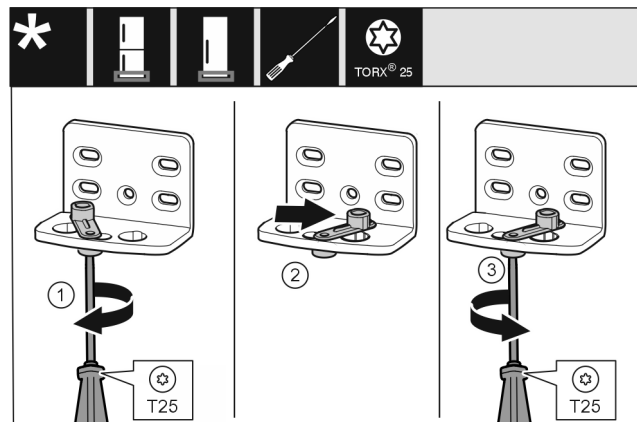

Fig. 14
- ▶ Loosen the screw using a T25 screwdriver. *Fig. 14 (1)*
- ▶ Lift the door closing aid and turn it 90° to the right in the hole. *Fig. 14 (2)*
- ▶ Tighten the screw using the T25 screwdriver. *Fig. 14 (3)*